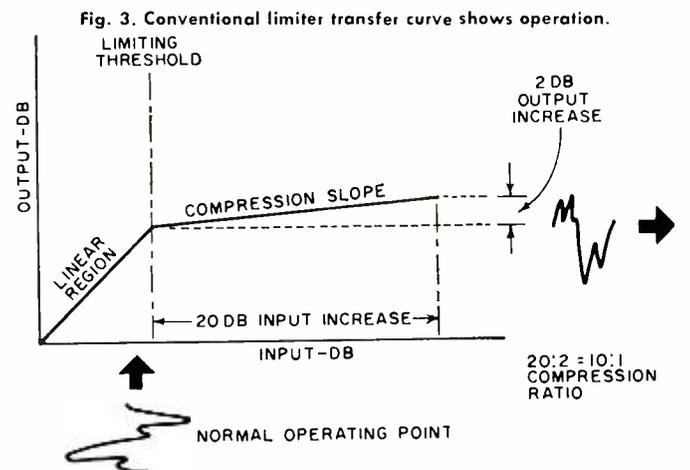
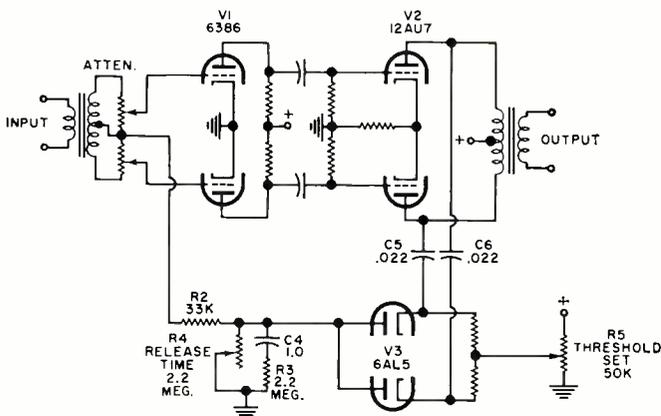
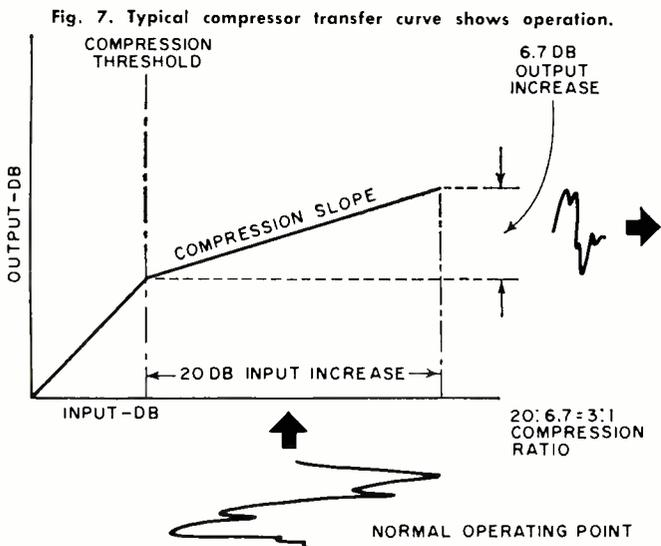
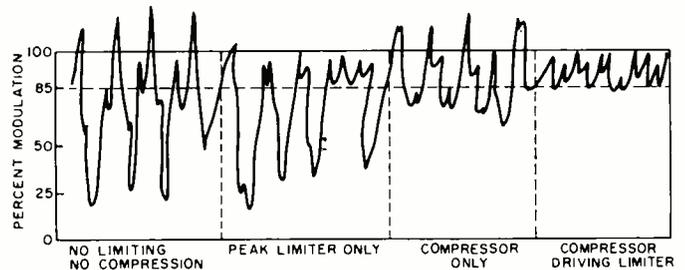

Fig. 3. Conventional limiter transfer curve shows operation.
Fig. 6. Conventional push-pull, vacuum-tube type compressor.
Fig. 7. Typical compressor transfer curve shows operation.
Fig. 8. Operation with both limiter and compressor action.
Below threshold, a limiter's output is directly proportional to input, as in Fig. 3. Above threshold, output is much reduced for input increases. (No limiter is perfect, and there is always *some* slight rise in output for an input increase.) The relation between input and output variation is called compression or limiting ratio. If the input increases by 20 db and the output by 2 db, the ratio is 10:1. When a peak hits the amplifier, it takes time for limiting to occur. This is called the attack time. When the input signal drops below the peak, more time elapses before the gain returns to normal—this is called release time. While a fast attack is preferable to prevent overload (a few milliseconds is common), release time depends on desired action. Half a second to several seconds is found on most units. Fast release is used on voice and on pop and jazz music, but slow release is better for classical and religious music. A compromise circuit is often used; single, short peaks trigger fast release, but a long peak or a succession of short ones causes slow recovery.
**Push-pull vacuum-tube type.** By employing the push-pull circuit of Fig. 6, harmonic distortion cancels in the output transformer. Such devices are widely used in public-address, background-music, recording, and broadcasting work. It is quite similar to the peak limiter, except that the limiter has fast and drastic gain-controlling action (average 1-msec. attack time, 12:1 compression ratio), while the compressor is an averaging device (24-msec. attack time, 3:1 compression ratio). By comparing Fig. 7 to Fig. 3 you can see the difference. The limiter operates *below* the knee of the curve, while the compressor operates *above* it. Hence, a limiter normally amplifies linearly and limits only on peaks; whereas a compressor reduces gain constantly, compressing high-level signals *more* and low-level signals *less*. This is also shown in Fig. 8.